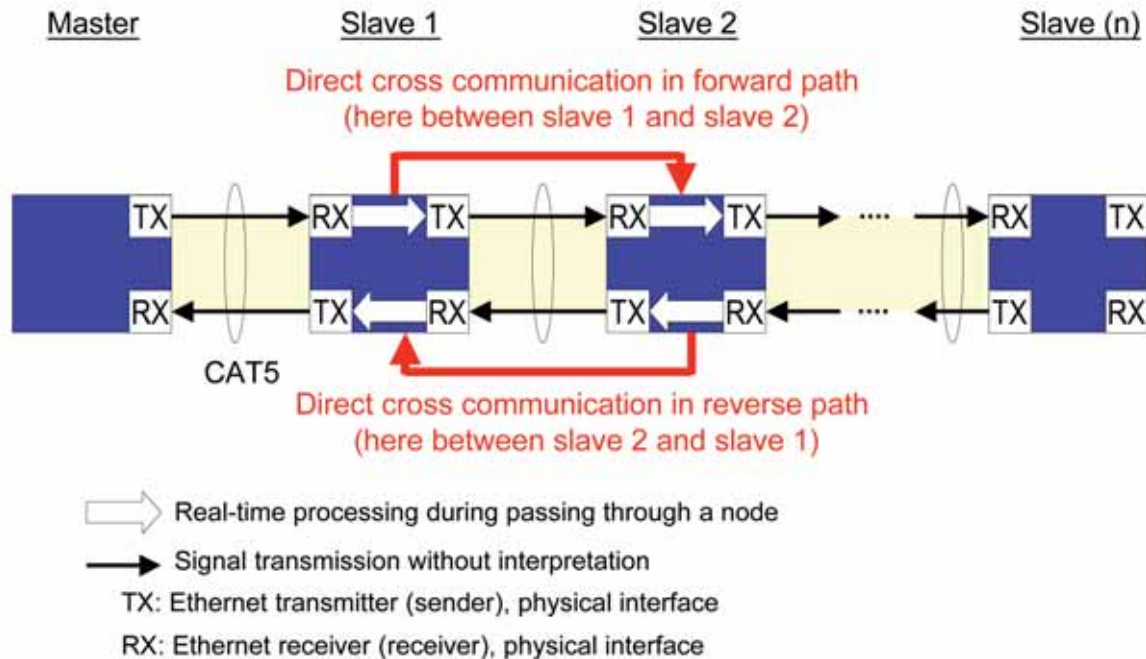

Figure 2 – Direct cross-communication between SERCOS III slave devices
- Direct cross communication between slaves (Figure 2)